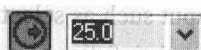

Fig.1-11 Soft-locked
- ② Soft-locked (shown in Fig.1-11): The data is only locked in this time. After an entity is created, the field returns to the unlocked (default) state.
- ② 软锁定 (如图 1-11 所示): 数据仅本次锁定。绘制图元后, 区域返回到不锁定 (缺省) 状态。